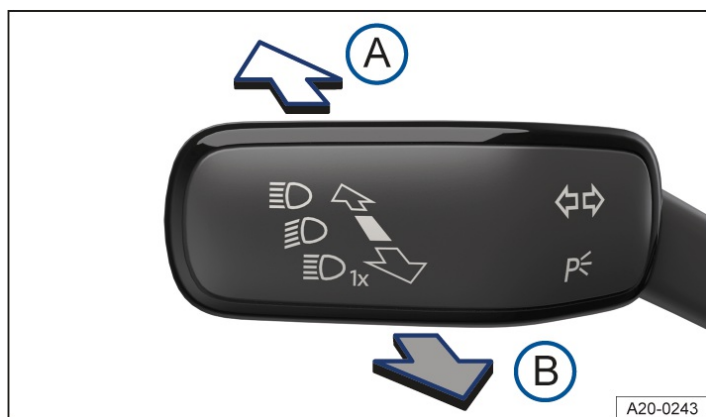

Fig. 1 On the left-hand side of the steering column: turn signal and main beam lever.
3. Push the turn signal and main beam lever forwards from the centre position → *Fig. 1*.
1. Pull the turn signal and main beam lever to the rear from the centre position → *Fig. 1*.
1. Pull the turn signal and main beam lever to the rear from the centre position and hold it → *Fig. 1*.